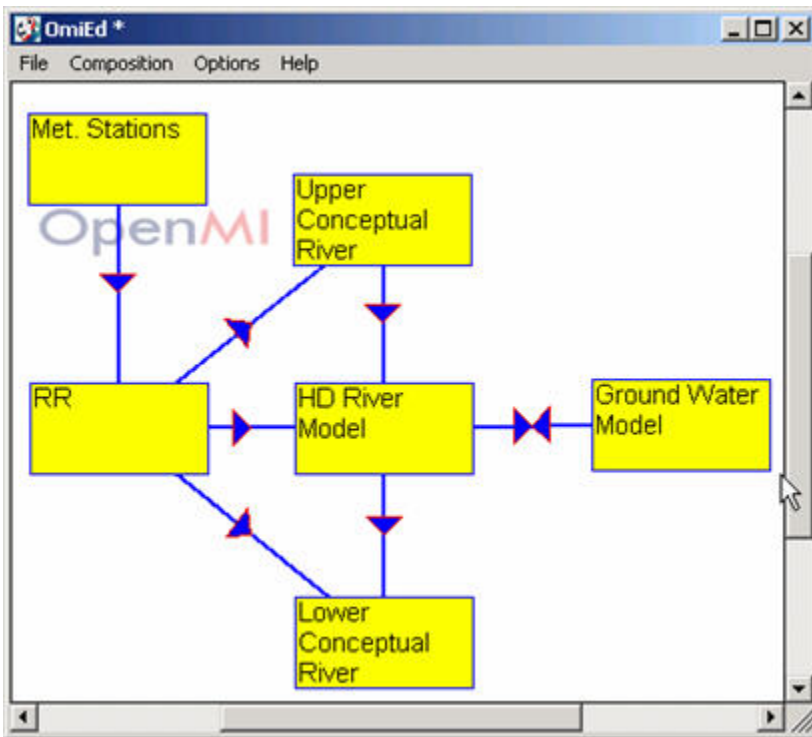

Figure 2 Open source OpenMI configuration editor used to configure links between the models shown in Figure 1
2. Use an OpenMI editor to add the models to a configuration. Figure 2 illustrates the open source OpenMI Configuration Editor. With this editor, the user selects **Add model** in the Configuration Editor and browses the file system to find the OMI files. Each time an OMI file has been selected, the OpenMI-compliant model component is loaded and the component reads its input files.